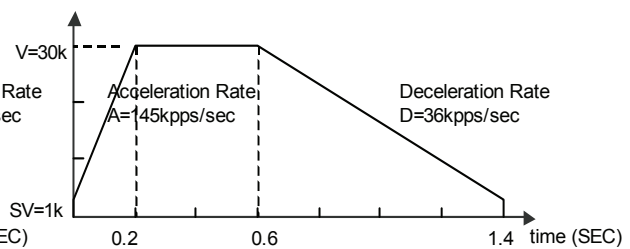
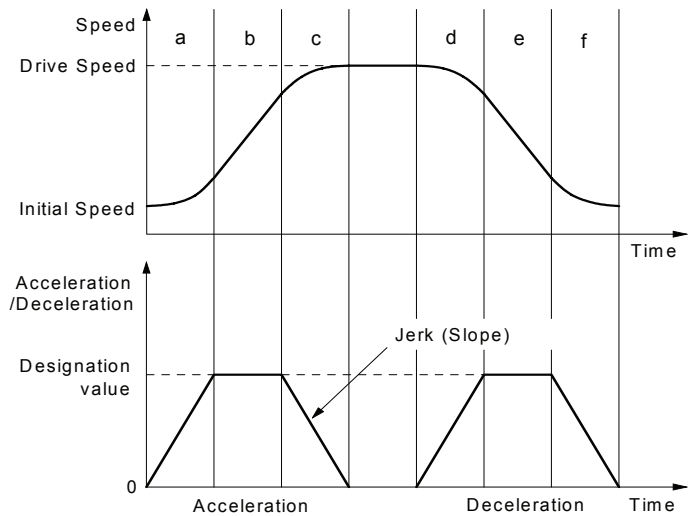

Fig. 2.11 Non-Symmetrical Linear Acceleration Driving (acceleration > deceleration)
Fig.2.12 S-Curve Acceleration/Deceleration Driving
This IC can perform automatic deceleration in fixed driving in non-symmetrical linear acceleration where the acceleration and the deceleration are different. It is not necessary to set a manual deceleration point by calculation in advance. Fig. 2.11 shows the case where the deceleration is greater than the acceleration and Fig. 2.12 shows the case where the acceleration is greater than the deceleration. In such non-symmetrical linear acceleration also, the deceleration start point is calculated within the IC based on the number of output pulses P and each rate parameter.
- In the case of acceleration > deceleration (Fig. 2.12), the following condition is applied to the ratio of the acceleration and the deceleration.
- If acceleration > deceleration (Fig. 2.12), the greater the ratio of acceleration A to deceleration D becomes, the greater the number of creep pulses becomes (about maximum of 10 pulse when A/D=10 times). When creep pulses cause a problem, solve the problem by ①increasing the initial speed or ②setting a minus value to the acceleration counter offset.